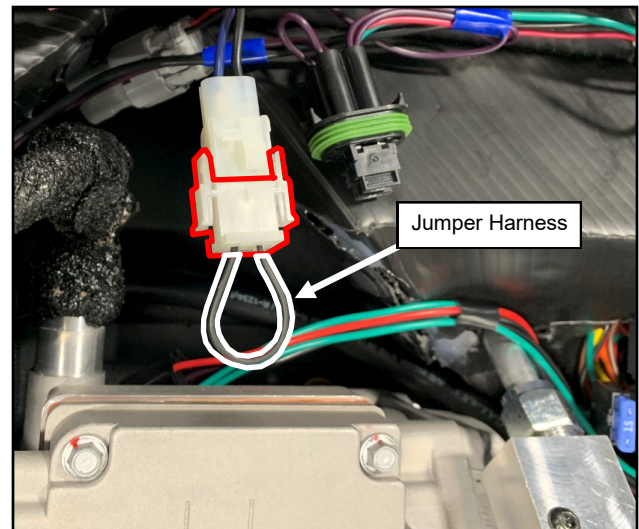

Fig. 1.7 (Install Jumper Harness)
- 1.7 Install Jumper Harness supplied in this alternator kit onto the A/C Unit's main control harness per fig 1.7.